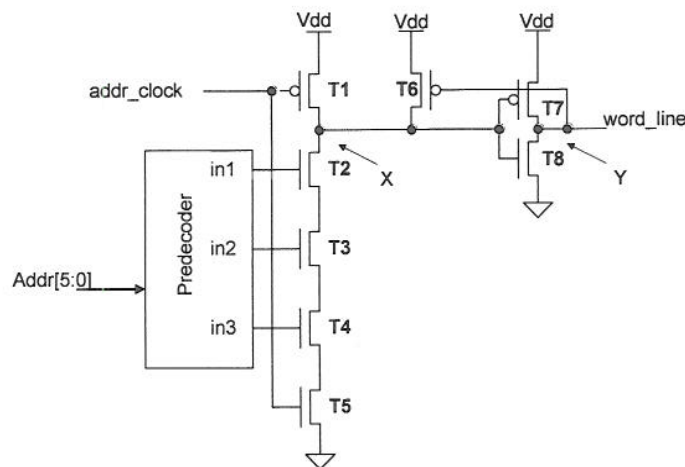

Figure 2.1
2. *Figure 2.1* shows part of an address decoder circuit for a CMOS memory chip. T1 and T6 are strong and weak transistors respectively when compared with the pull-down transistors T2-T5. The signals $addr[5:0]$ forms the 6-bit row address of a memory array.
d) Design the layout of the decoder circuit shown in *Figure 2.1* (including that for your predecoder design) in the form of symbolic layout or stick diagram. [10 marks]